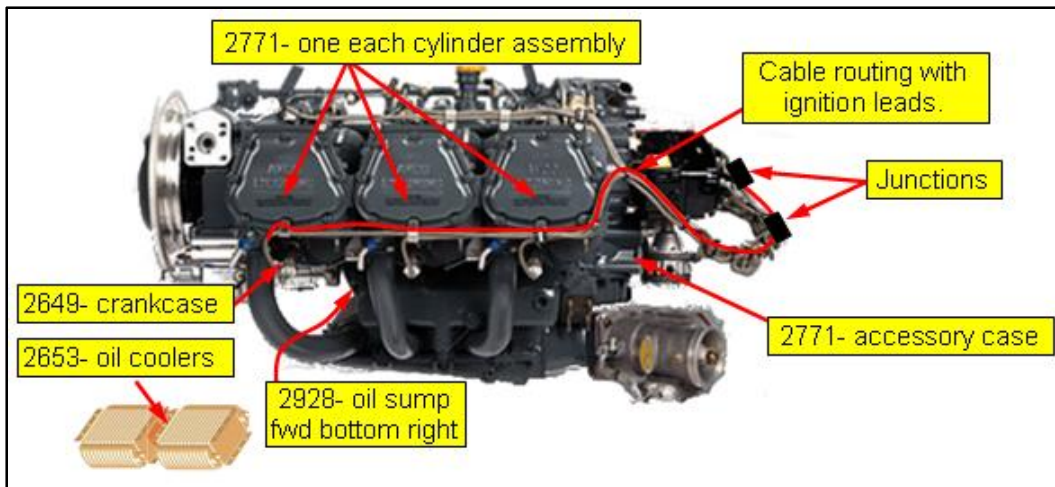

Figure 9 - General engine element layout and wire routing.
4. Junctions: Reference cable kit wire diagram, Figures 9, 15, and 16.
5. Leads: Reference cable kit wire diagram and Figures 9 through 19.
Note: Junction J-B is mounted on engine mount (Figures 9, 15, and 16), lead 05 with connector transitions the preheat system cabling to the first engine mounted junction, junction J-C (Figure 16).. From this point Junctions J-C and J-D are mounted on ignition leads and considered engine mounted. From this point cabling from junctions J-C and J-D are not transition between the engine and airframe. The engine should be able to be removed with the Tanis engine preheat attached by disconnecting lead 05 connector. Oil cooler leads 07 and 08 from J-B are routed with oil cooler lines to cooler elements.